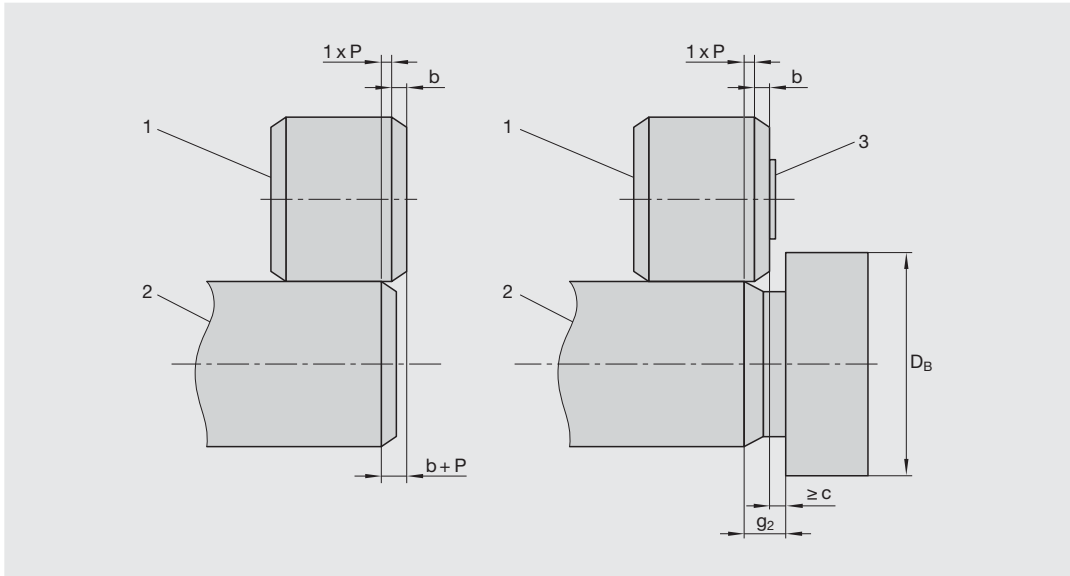

Fig. 2: Thread roll at the free end and thread undercut
At the free end of the thread or the workpiece tip, the leading edge of the thread roll (1) must ideally be located at the dimension  $b + P = 2 \cdot P$  before the start of the thread (see Fig. 2-left). If this dimension
The same applies also to a thread undercut (see Fig. 2-right). The dimension  $b + P$  must be maintained. The correct safety distance  $c$  is automatically achieved if the length  $g_2$  of the thread undercut is as per DIN 76-A. The length is then approx.  $g_2 \approx 3.5 \cdot P$ .